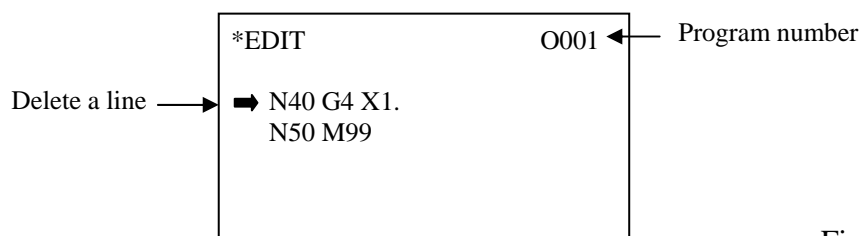

Fig 6.8
3. Press DEL key and The LCD displays as shown in Fig 6.8. (Block N40)